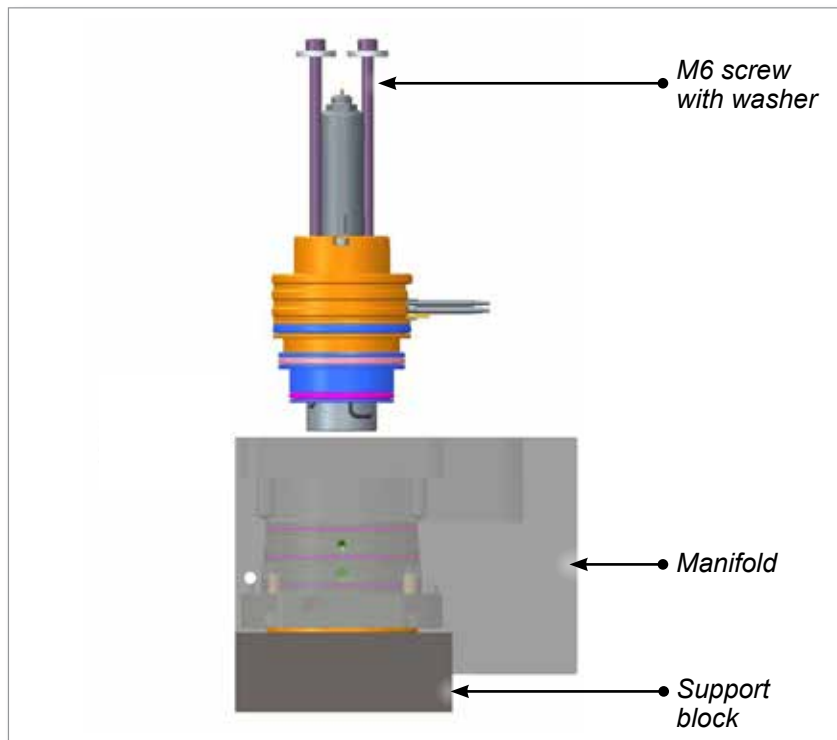

Figure 11-22 Support block, manifold plate and Slimstack unit
3. Place a manifold or support block beneath the manifold plate to hold the Slimstack unit to be assembled. See Figure 11-22.